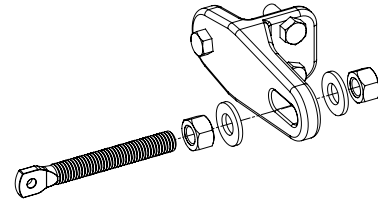

Figure 15. Attach Tension Bolt
7. Attach a tension bolt to each gate bracket (Figure 15).